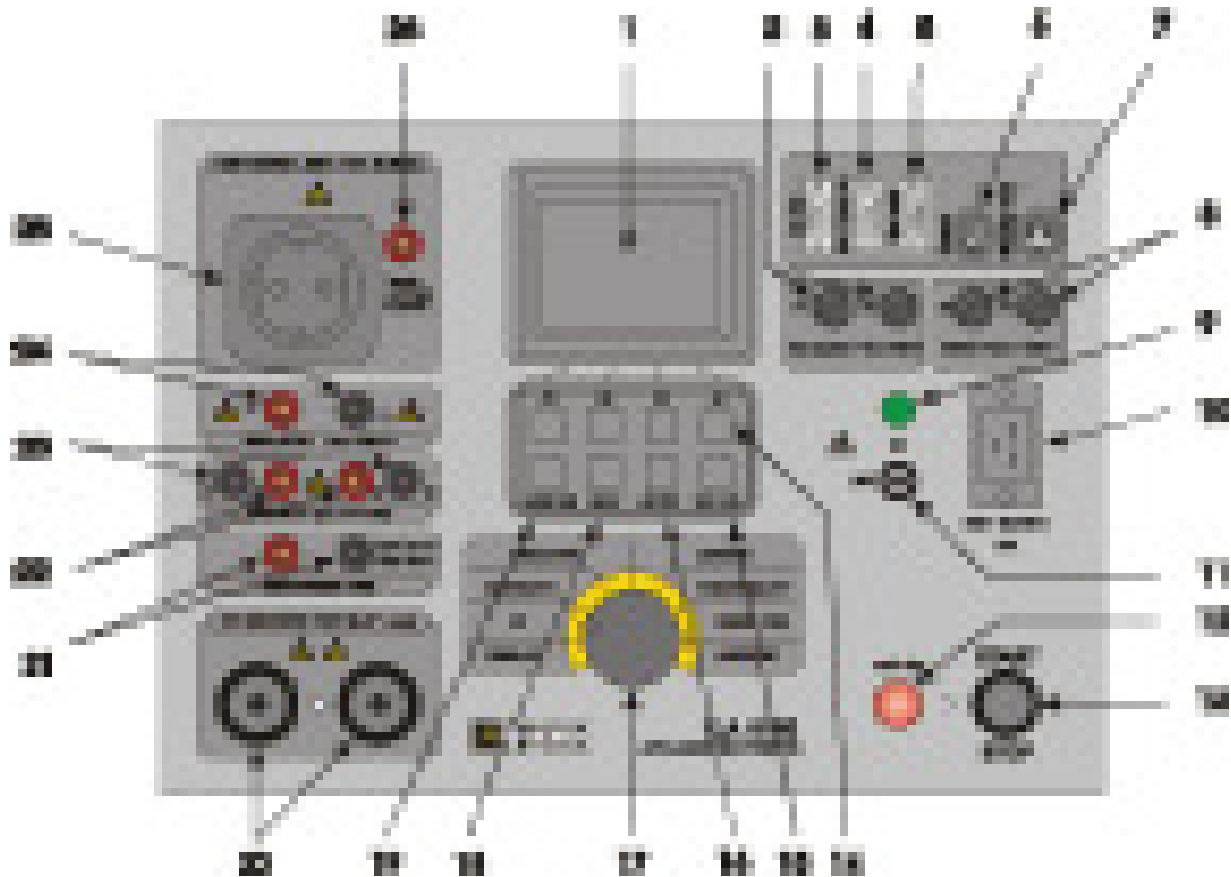

Fig.1. Front panel layout
Dangerous voltage may be present, switch off the instrument immediately if the red warning lamp (pos. 12, fig. 1) does not light after switching on HV generator, and service the instrument. Always handle as the test leads are energized.